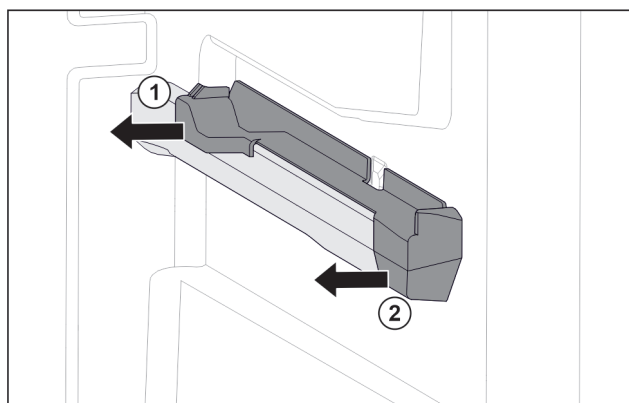

Fig. 79 Attachment on the right moulded rib
- ▶ Grab attachment at the back from below. Fig. 79 (1)
- ▶ Pull off attachment at the back sideways. Fig. 79 (1)
- ▶ Pull off attachment at the front sideways. Fig. 79 (2)